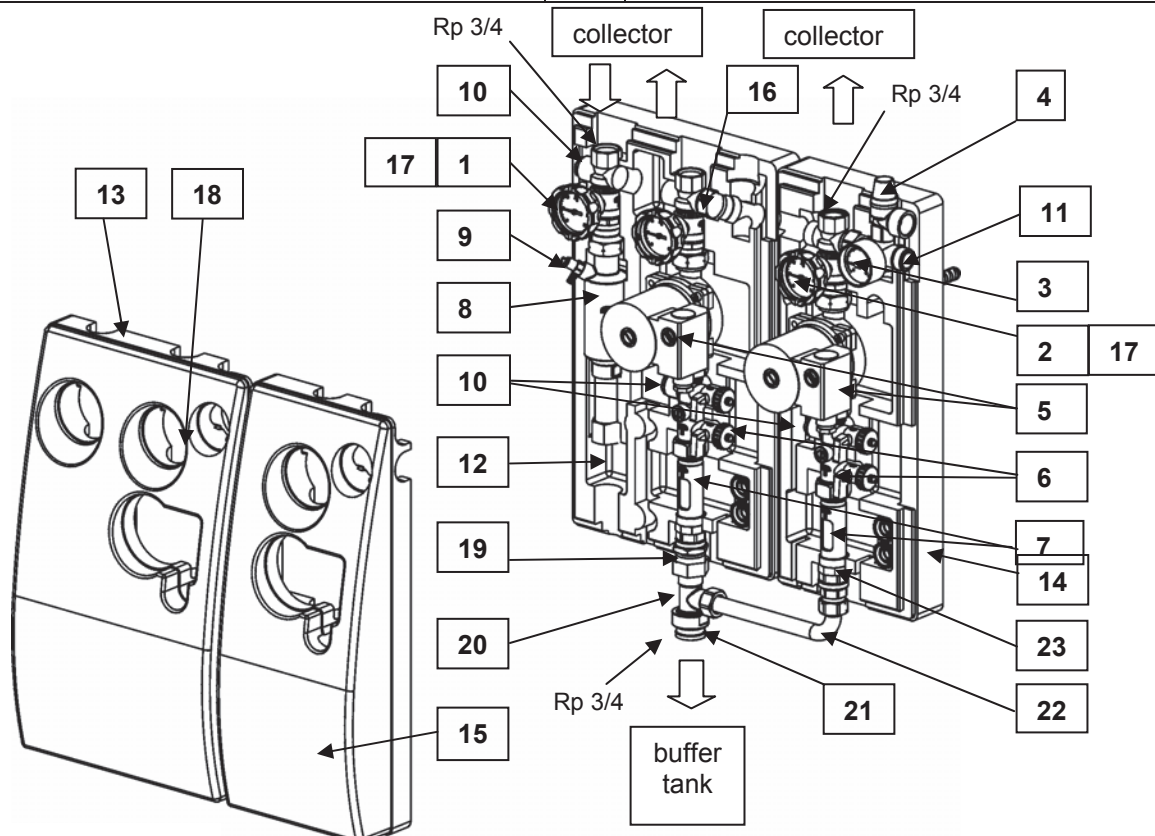

Fig. 2: Components
In case of maintenance (e.g. change of pump) all ball valves have to be closed (Fig.2, pos.1 and 2)
Excessive air, which the thermal carrying medium may contain, is collected in the air-jet and can be released manually by the help of the venting nipple. (Fig.2, pos. 9)
In An immersion sleeve with a G $\frac{1}{2}$ male thread for integrating a temperature sensor may be installed in the flow ball valve (fig.2, pos.1) and in the fill/drain valve. (Fig.2, pos.6)
- Direction of fluid flow must correspond with the arrow on the pump housing (Fig. 2, pos. 1).